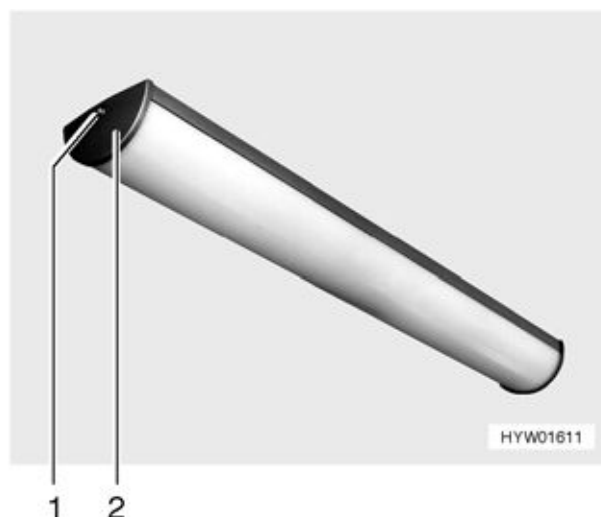

Fig. 184 Living area lamp
- Remove the screw (Fig. 184,1) and take off the cover (Fig. 184,2).